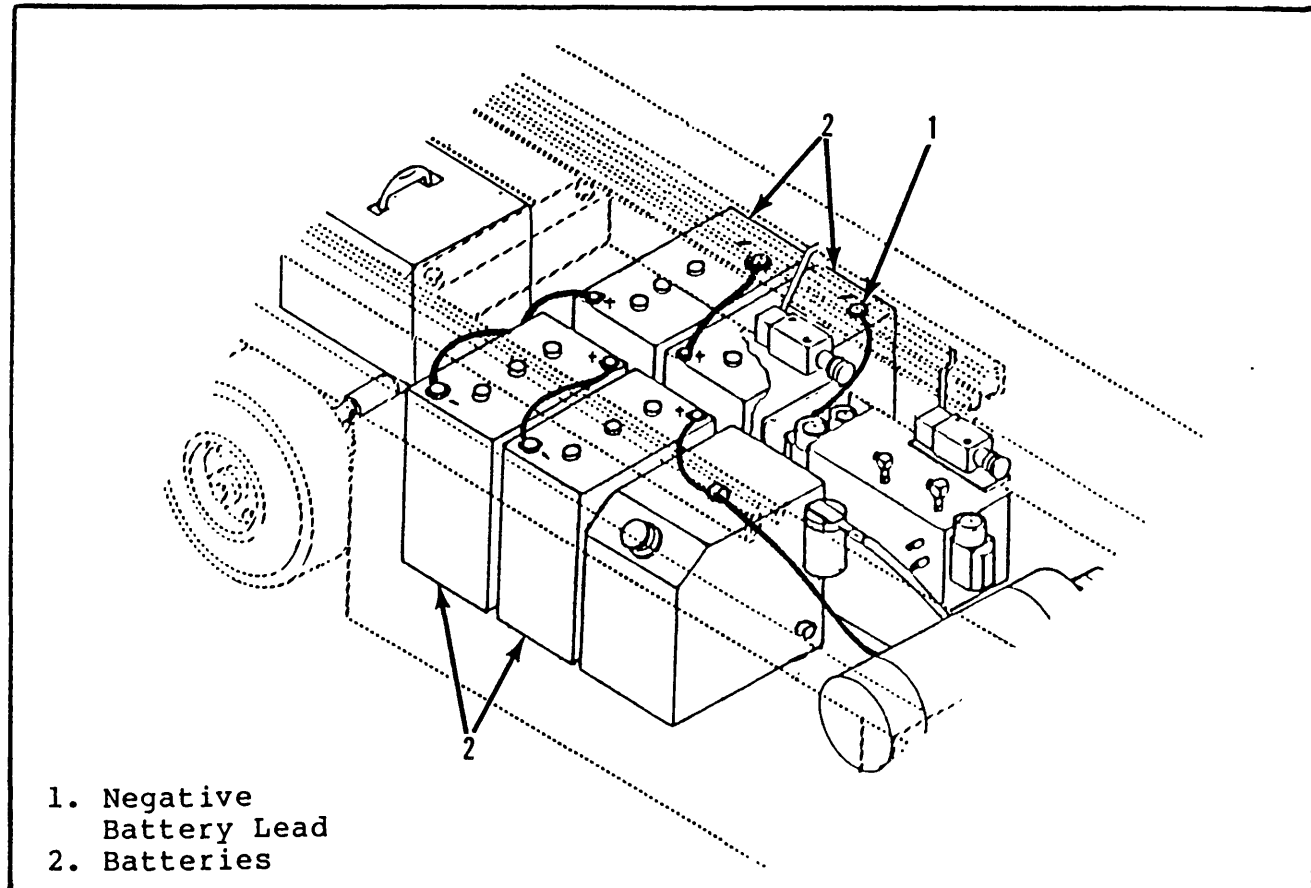

Figure 3-1. Batteries
- f. Connect the negative battery lead (1, Figure 3-1).
- c. Disconnect the battery negative (-) lead from the battery pack (1, Figure 3-1).